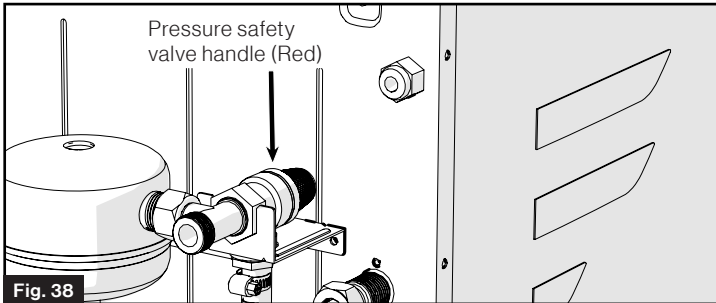

Fig. 38
9. Inspect the pressure safety valve to ensure it has not been leaking (no water residue). See "Pressure Safety Valve Maintenance" for further inspection. (Fig. 38)